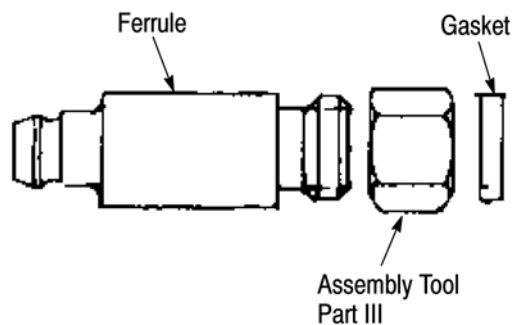

Figure 14
- After assembly Step 9, assemble tool Part III to ferrule before proceeding with Step 10. See Figure 14;
- After disassembling tool (Step 11), install gasket behind threads on ferrule. See Figure 14.